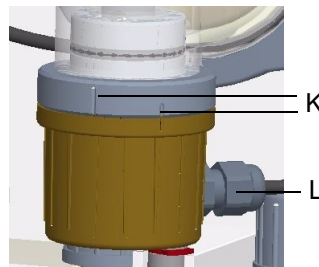
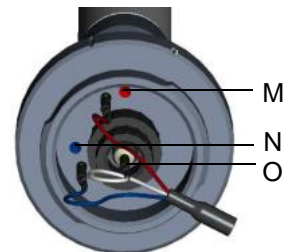

Figure 10 Detail: cap
Figure 11 Section of 3-electrode measuring cell
- 1 Insert the multi-sensor (A) in the flow control valve (B).
- 2 Connect sensor cable DFMe-DES (E) to the 3-electrode measuring cell (C). To do this, screw cap (D) on the 3-electrode measuring cell (C) counterclockwise up to the mark (see Figure 10, item K) and take it off. Feed the sensor cable through the cap and tighten with the M12 cable union (L). Connect the signal cable, observing the correct colors (see Figure 11 and lower table). Screw in the cap clockwise up to the mark.